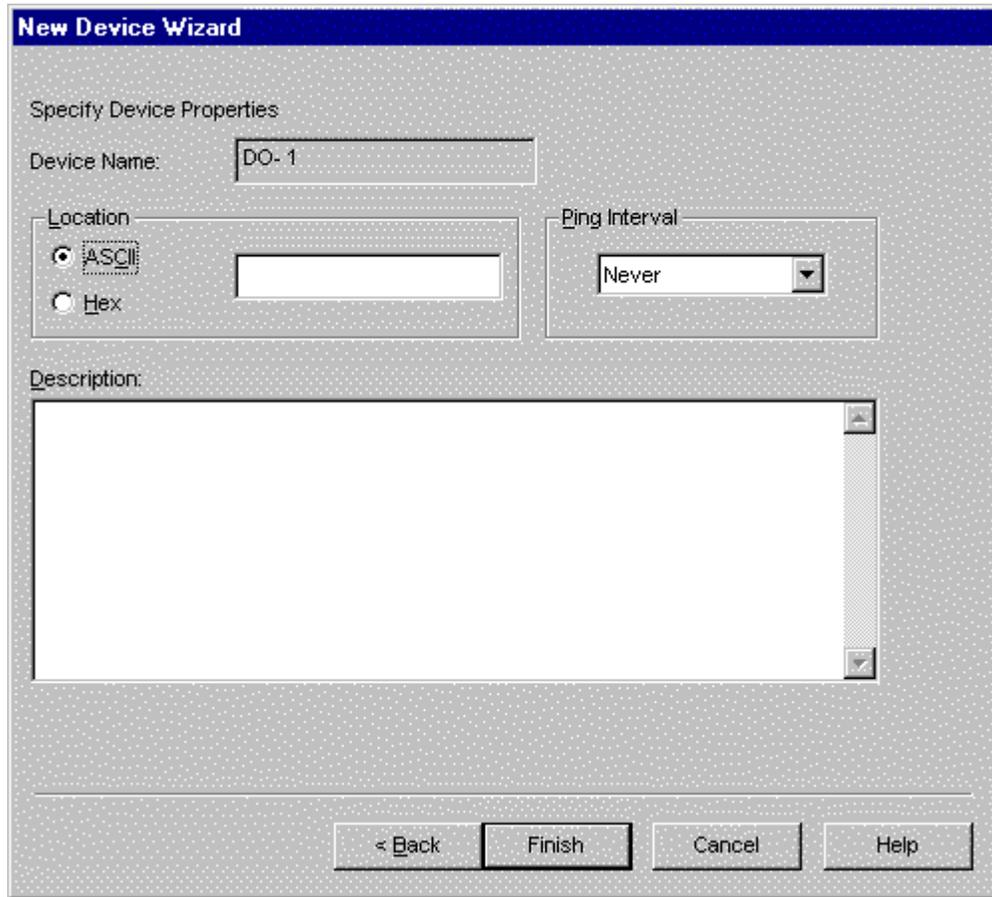

Figure 5.11 – LonMaker Device Creation Wizard
3. From the *LonPoint Shapes* stencil drag and attach the three devices (a LonPoint DI-10 and two LonPoint DO-10s) to the default channel that the LonMaker tool provides upon start up. As each shape is dropped the LonMaker tool's device wizard can be used to set the Location String for the device using the window shown in figure 5.11.